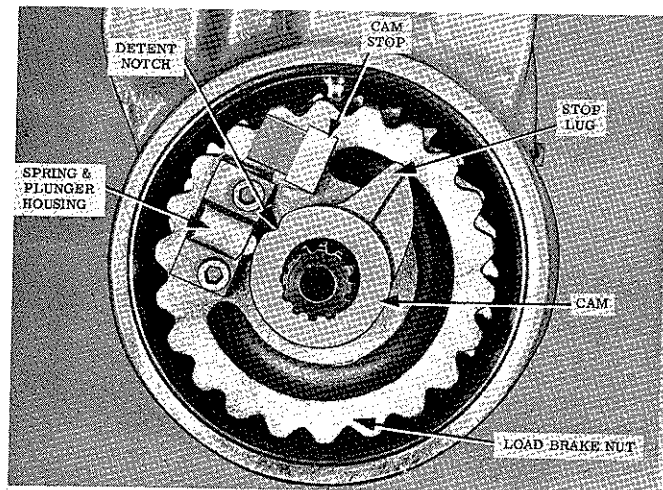

Figure 6-15. Assembled View Showing Correct Position for Free-Wheel Cam
c. Place cam over end of shaft with lug on cam clockwise of stop on load brake nut as shown in figure 6-15. Detent notch on cam should be positioned as close as possible to plunger, but should not engage plunger.